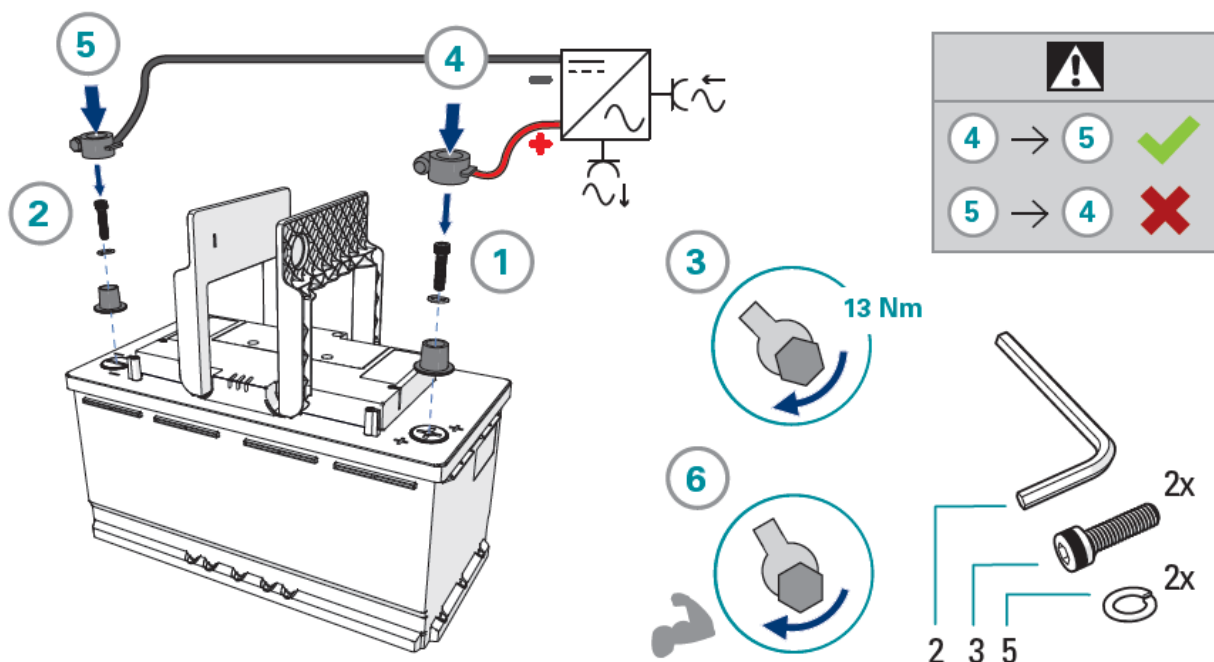

Figure 6: Connect the X1 (-) and X2 (+) terminal of the battery (automotive terminals)
1. Connect the load or charger to the X2 (+) terminal of the battery, see Figure 6.
2. Connect the load or charger to the X1 (-) terminal of the battery, see Figure 6.